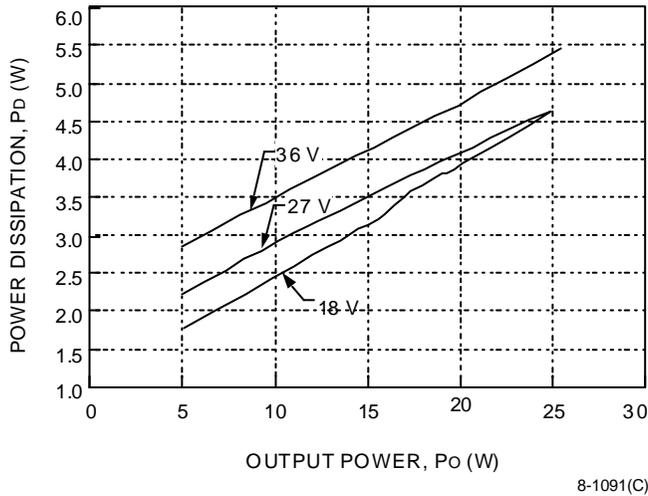
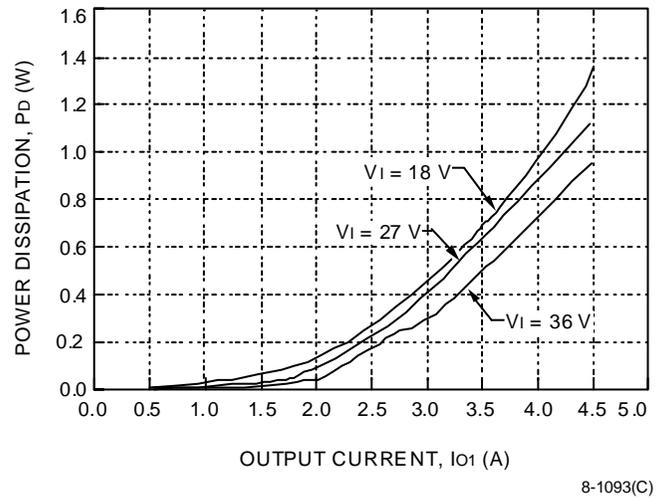
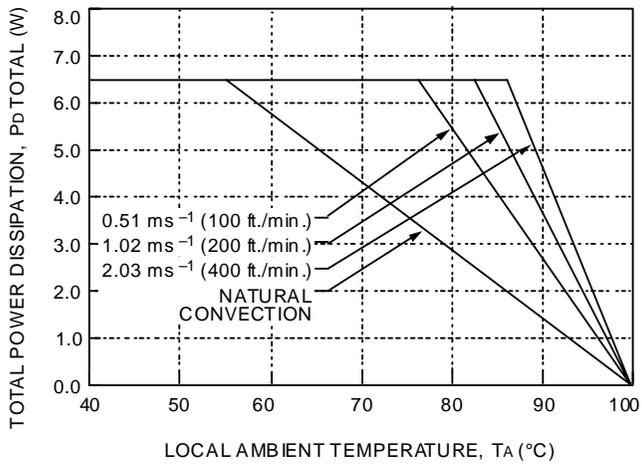

Figure 23. DC025ABK-M Fixed Losses, Pp
Figure 25. DC025ABK-M, DC025ACL-M Losses, Associated with 5 V Output, Ps1
Figure 28. Total Power Dissipation vs. Local Ambient Temperature and Air Velocity
The maximum operating temperature of the DC025 Triple Output-Series Power Modules at a given operating condition can be predicted by combining the power dissipation curves (Figures 23 through 27), the power derating curve (Figure 28), and the thermal resistance curve (Figure 28).
Use Figures 23 through 28 and the steps below to predict the safe operating region for many different operating and environmental conditions.
2. Use P_{ototal} with the appropriate figure (Figure 23 or 25) to determine the fixed losses (P_P) associated with operating at P_{ototal} . These losses are independent of which output the load is being drawn from.
3. Use the desired output current (I_{o1}) with Figure 25 to determine P_{s1} , which is the additional power being dissipated due to loading of the main output.
4. Repeat Step 3 for outputs 2 and 3 using the appropriate figure (Figure 23 or 27) to determine P_{s2} and P_{s3} , which is the power dissipated due to loading of the auxiliary outputs.
6. Use the estimated total power dissipated (P_{Dtotal}) along with Figure 28 to determine the maximum ambient temperature allowable for a given air velocity.
$$\begin{aligned} P_P &= 4.5 \text{ W (from Figure 23)} \\ P_{s1} &= 0.22 \text{ W (from Figure 25)} \\ P_{s2} &= 0.07 \text{ W (from Figure 23)} \\ P_{s3} &= 0.07 \text{ W (from Figure 23)} \end{aligned}$$
Figure 28 shows that in natural convection the maximum operating ambient temperature for this module is approximately 66 °C.
The air velocity required to maintain a desired maximum case temperature for a given power dissipation and ambient temperature can be calculated using Figure 28 and the following equation:
This corresponds to an airflow greater than 0.38 ms⁻¹ (75 fpm) in Figure 28.